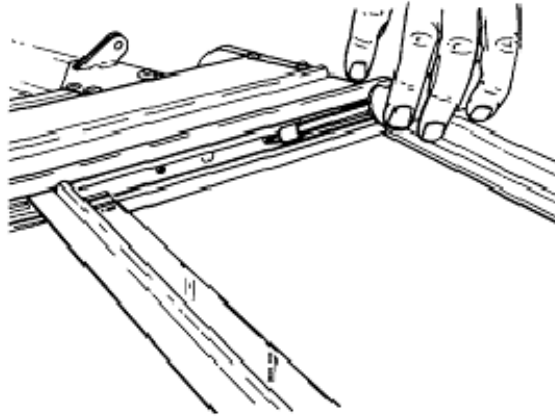

Figure 184 Glass And Rail Removal
- c. Remove the six screws securing the removable rail to the door frame (Figure 184).